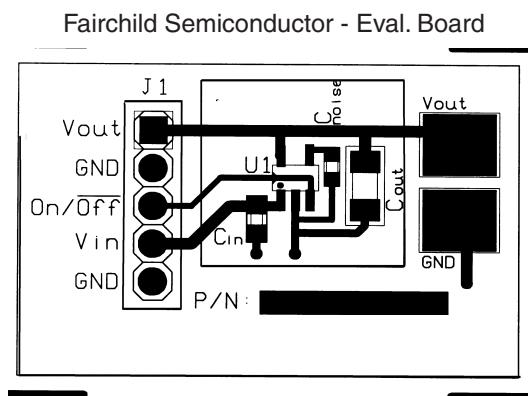

Figure 9. Recommended Application Circuit Layout (not drawn to scale)
**Table 2. Evaluation Board Parts List For Printed Circuit Board Shown in Figure 9**
Figure 9 shows how this circuit can be translated into a PCB layout.